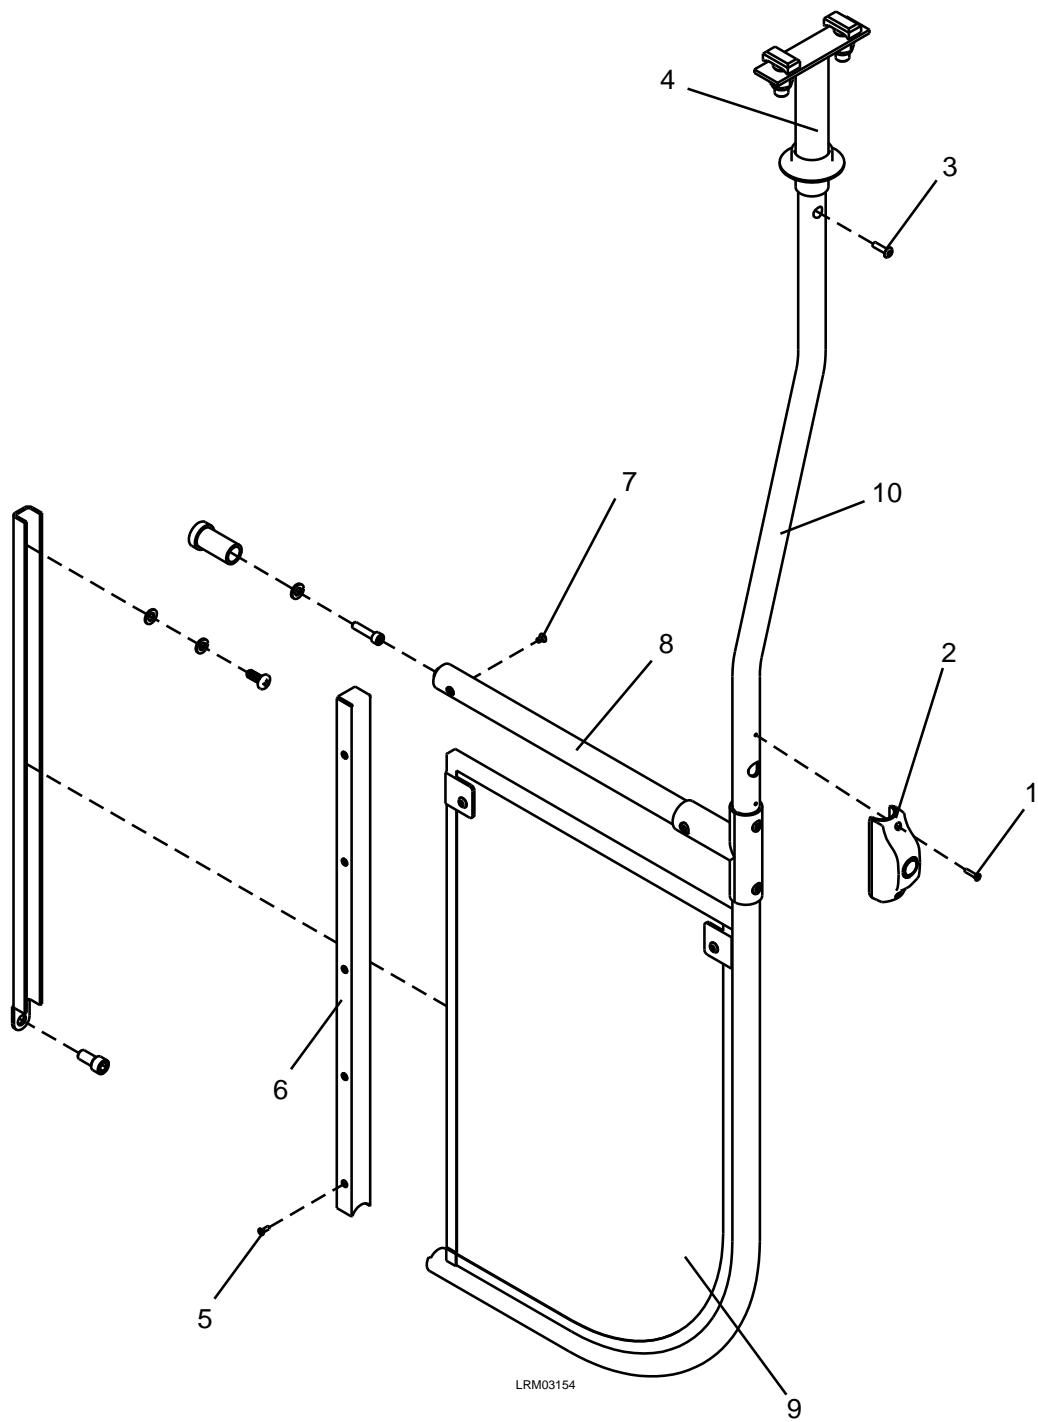

Figure 7-81: Center Windscreen
1. Remove the M4 x 8 screw (3) from the stanchion support (4). See Figure 7-81.
2. Remove the ten M4 x 8 screws (5) from the wall channel (6).
3. Remove the two M5 x 8 screws (7) from the grab rail (8).
4. Remove the Center Windscreen (9) along with the stanchion (10).